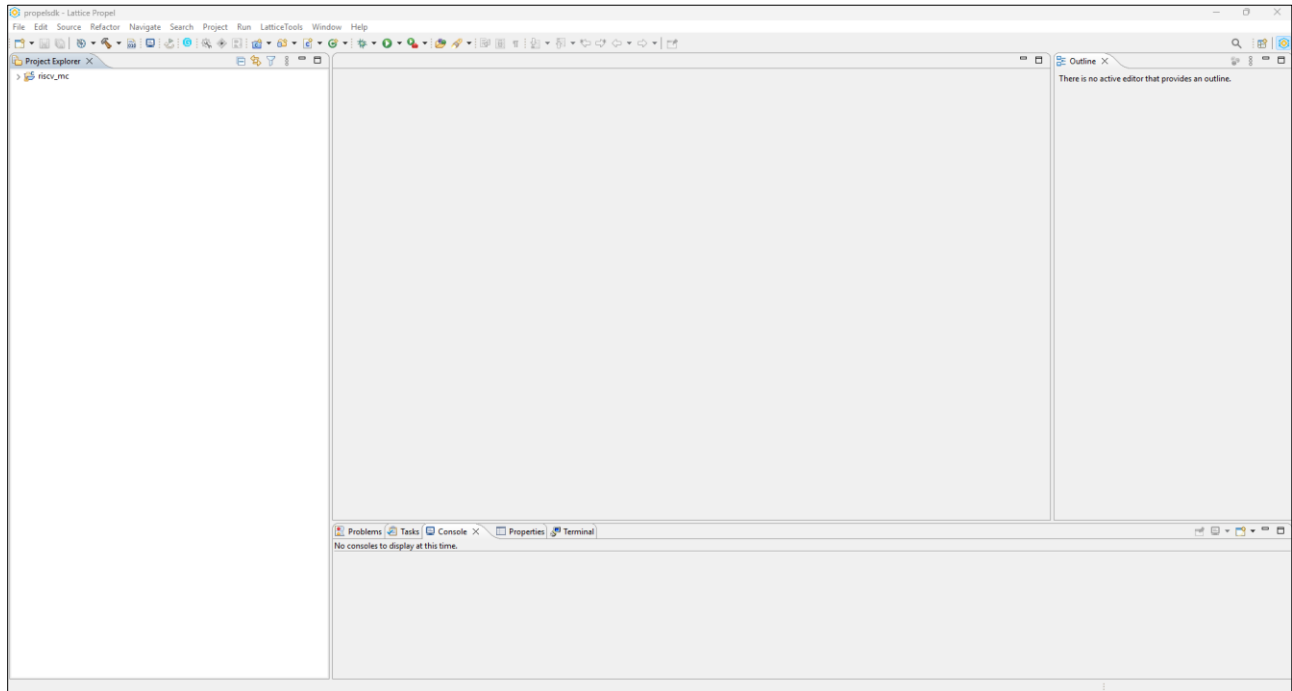

Figure 5.4. Propel SDK Project Opened in Lattice Propel SDK
6. The Propel SDK project is opened and you can see the riscv_mc project (Figure 5.4).